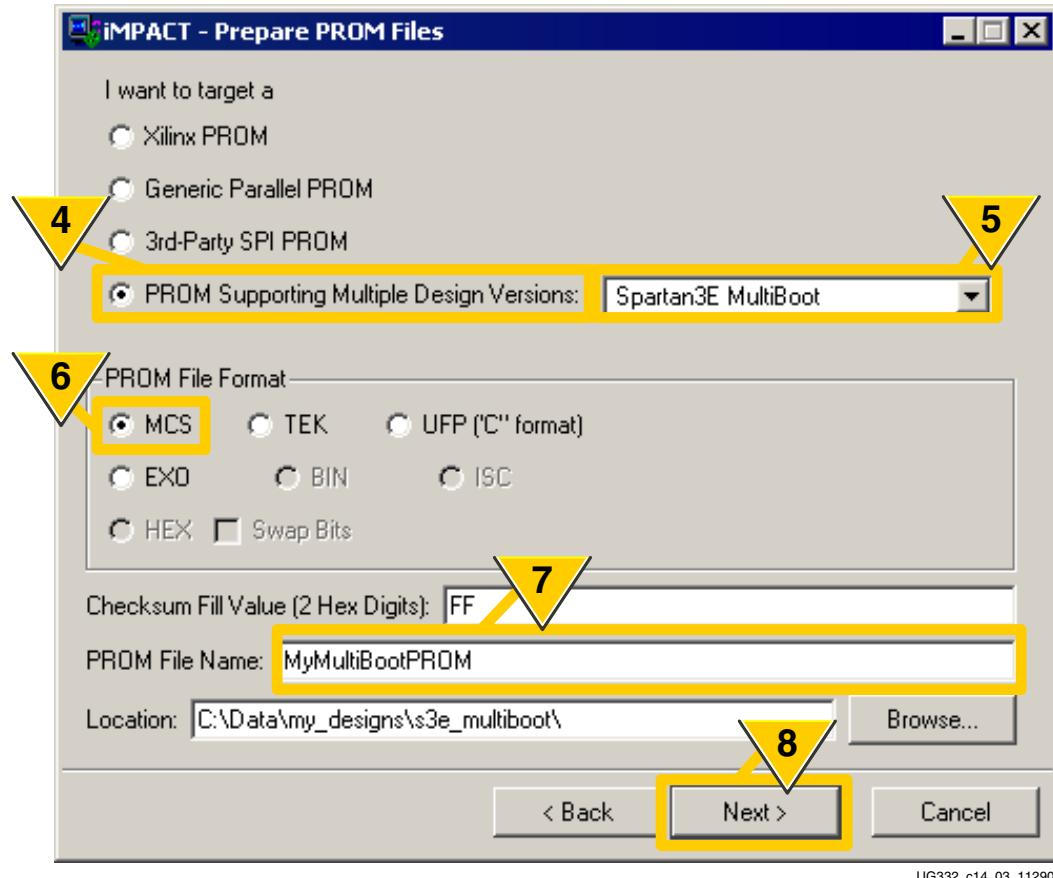

Figure 14-3: Select a PROM Supporting MultiBoot for Spartan-3E FPGAs
4. As shown in Figure 14-3, target a **PROM Supporting Multiple Design Revisions**.